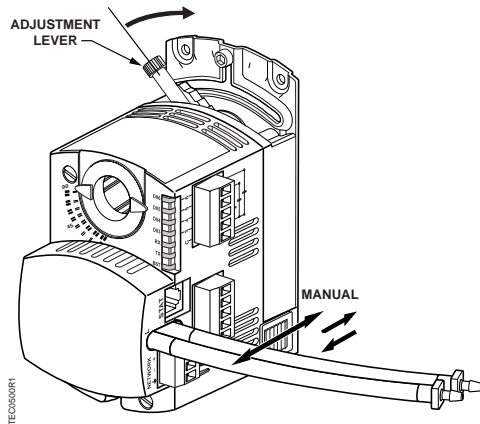

**Figure 5. Damper Rotation.**
2. Determine the damper blade rotation, clockwise or counterclockwise to open, Figure 5.